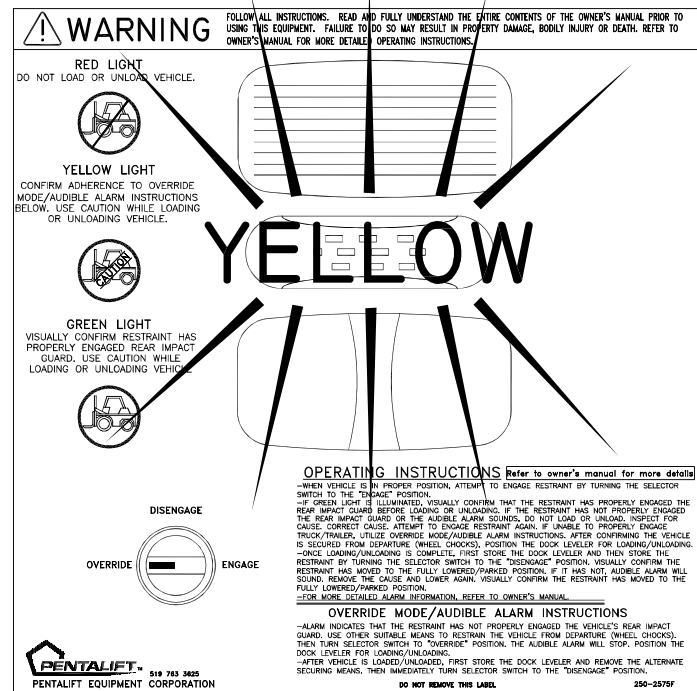
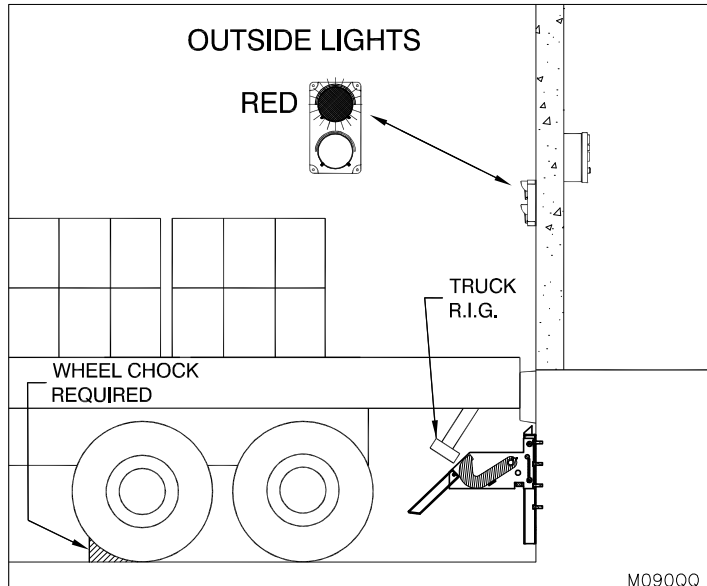

Figure 23: Inside Light Yellow and Audible Alarm Sounding
Figure 24: Secure Vehicle by Other Means
6. To test the **OVERRIDE** feature, insert 3/8 bolt in location "C" and follow the entire sequence outlined in Step 2. With the restraint in the fully raised position (See "Figure 16A: Over Travel Simulation" on page 23) and with the audible alarm must be pulsing (1 second on 1 second off), turn the selector switch to the **"OVERRIDE"** position. The hook will automatically return to the parked position, and the audible alarm will be silenced. The **outside RED** light must be illuminated and the **inside YELLOW** light must be illuminated. (See "Figure 23: Inside Light Yellow" on page 28, and "Figure 24: Secure Vehicle by Other Means" on page 28). Remove bolt after testing.
In instances in which the dock leveler is activated for below level end loading and the lip of the dock leveler rests on the carriage of the RVR32 restraint. Restore the dock leveler to the stored / parked position. Release the restraint by turning the selector switch to the disengage position. Restrain the vehicle by alternate means (wheel chocks). Turn the selector switch to the override position (See “Figure 23: Inside Light Yellow” on page 28). Reposition the dock leveler to the below level end loading position. Following this procedure releases the hook of the restraint and allows the lip of the dock leveler to push the RVR32 restraint carriage down without resistance. Failure to follow this procedure could damage the vehicle restraint, damage the vehicle, and/or damage the dock leveler. It could also result in instability of the dock leveler deck, which in extreme cases, could cause the fork lift to tip.